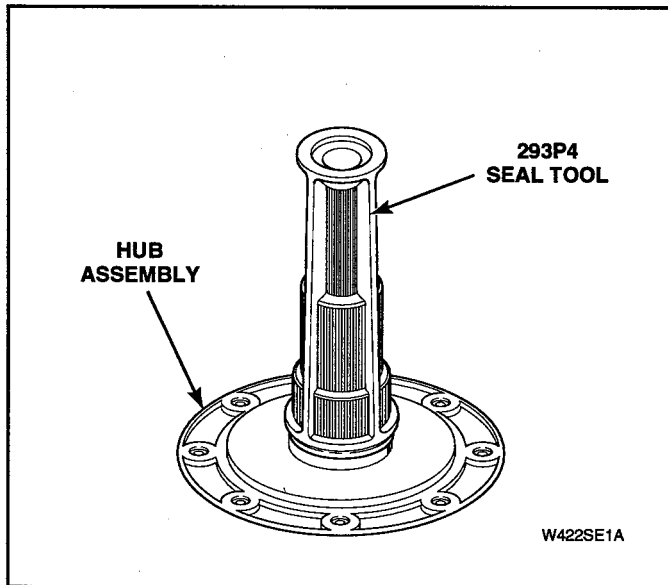

Figure 5-17
- Place new drive bell seal onto hub and carefully push into position using large end of No. 293P4 Seal Tool. See Figure 5-17.